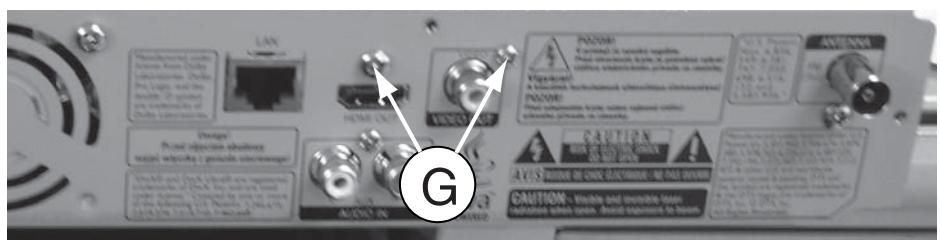

Figure 13
2) At the back panel, loosen 2 screws "G" as shown in figure 13